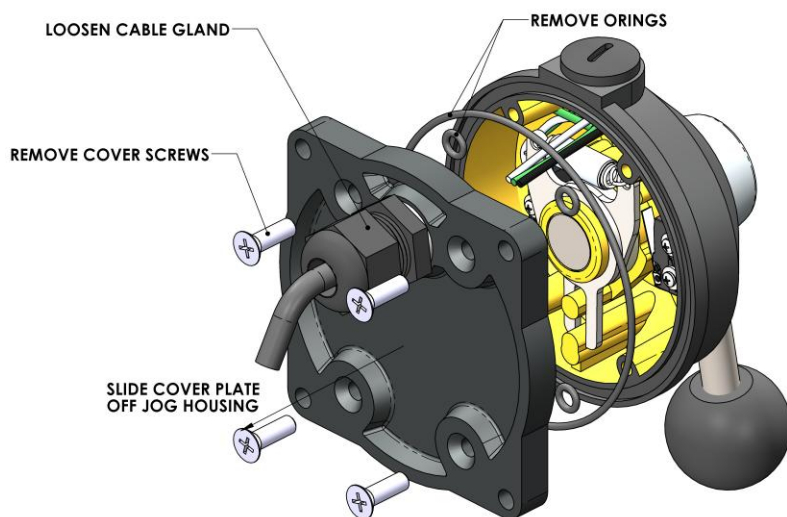

Figure 21: Removal of the cover plate and O-rings
2. [Under dash mount only] Loosen the cable gland so that the cover plate can be slid down the cable as shown in Figure 21.
4. Remove the cover plate, and body O-rings. For under dash mount models, the dash plate will need to be slid along the jog lever electrical cable as shown in Figure 21.